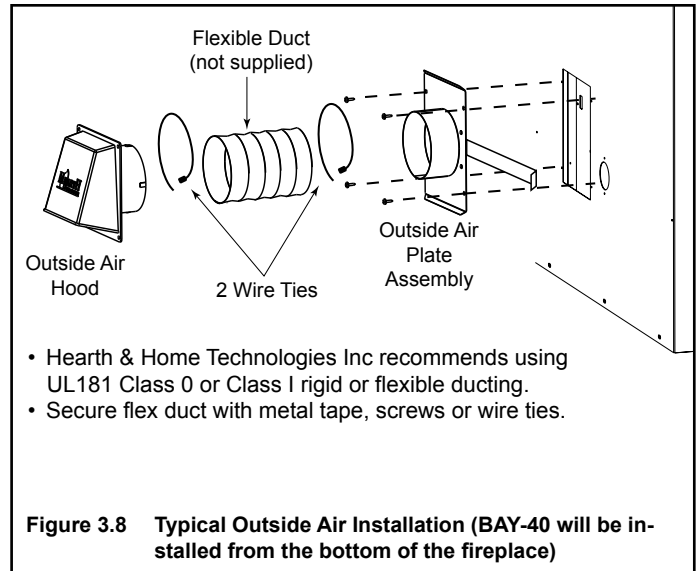

Figure 3.8 Typical Outside Air Installation (BAY-40 will be installed from the bottom of the fireplace)
- Install as shown in Figures 3.8 and 3.9.